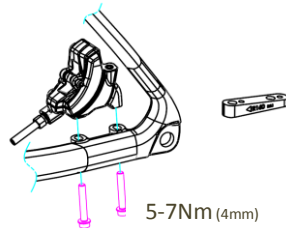

Fig. D-2 Align rear-caliper with frame mounting holes.
- Attach the caliper to the fork or frame using two mounting bolts, but do not fully tighten at this time. **(Fig. D-2)**